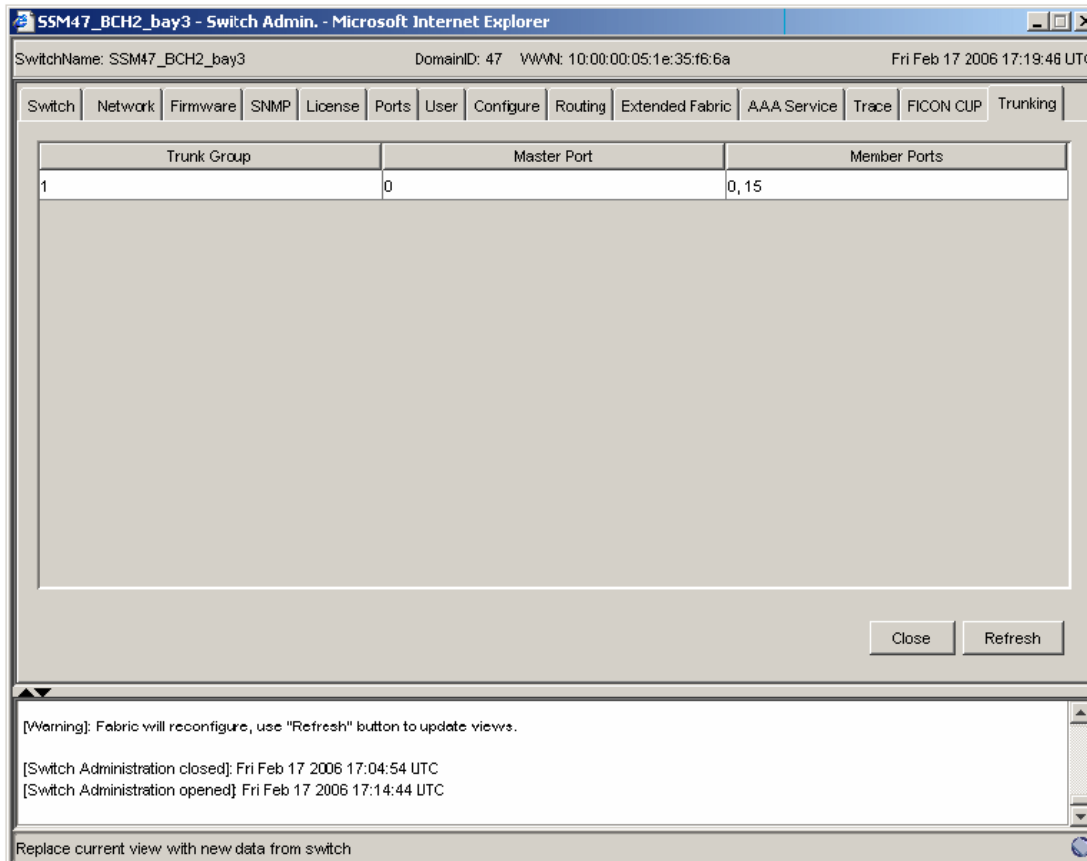

Figure 5-49 Viewing a two member trunk
5. On the Admin Trunking window, click the **Refresh** button and view the Member Ports column. Verify that the new link is now a member of the same Trunk group (see Figure 5-49).